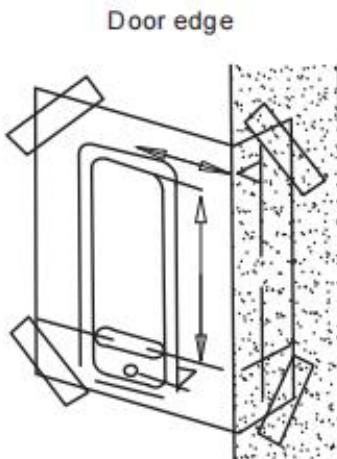

Fig.2
- 1)Correctly position and affix the template (Model 209 product template) to the surface of the internal door Required height off the floor. Ensure that the relevant, marked, door edge alignment template should be properly aligned with the actual door edge. (see figure 2)